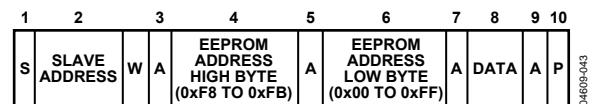

Figure 43. Single Byte Write to the EEPROM
- To write a single byte of data to the EEPROM. In this case, the command byte is the high byte of EEPROM Address 0xF8 to EEPROM Address 0xFB. The first data byte is the low byte of the EEPROM address, and the second data byte is the actual data, as shown in Figure 43.